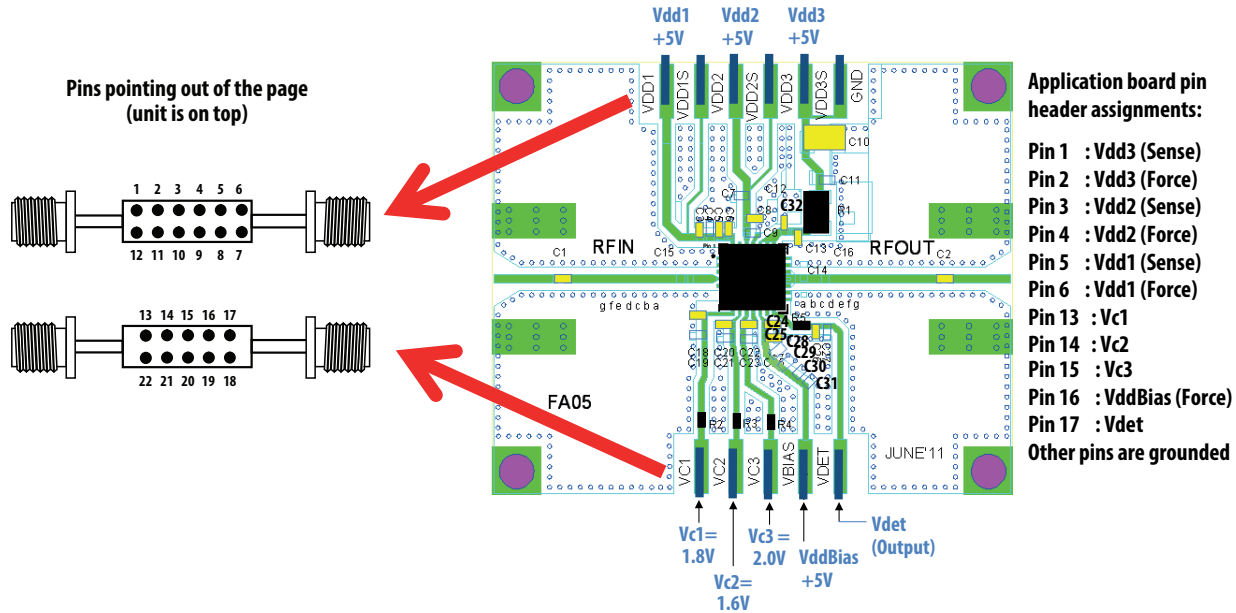

Figure 23. Demonstration board application circuit for MGA-43003 module
3. $I_{dq1} = 55.0\text{mA}$, $I_{dq2} = 105.0\text{mA}$, $I_{dq3} = 200.0\text{mA}$, $I_{VddBias} = 14.0\text{mA}$. $I_{dq1/2/3}$ are adjusted by voltages to CMOS-compatible control pins Vc1/2/3 respectively. These typical bias currents were obtained with Vc1/2/3 voltages in Figure 23 above. Adjustment of these currents enable optimum bias conditions to be achieved for best linearity and efficiency for a given modulation type.